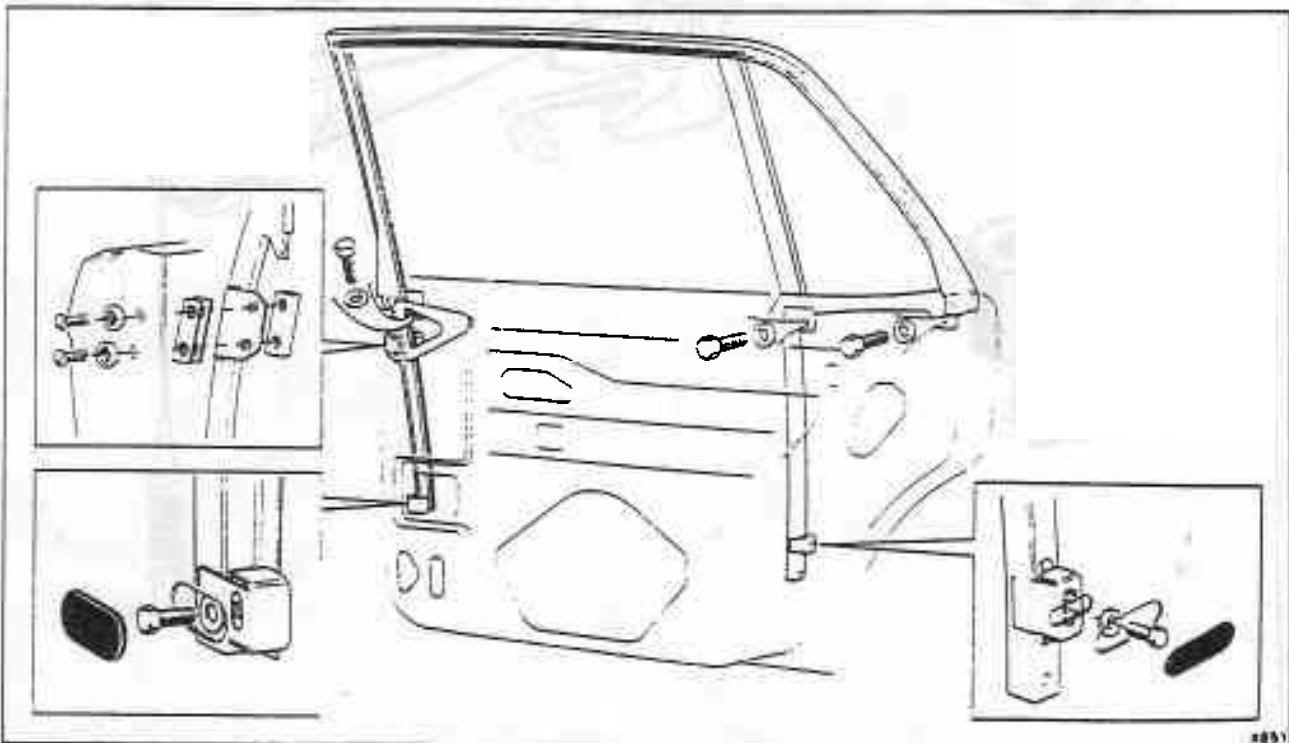

Fig. S4-8 Window frame fixing and adjustment points
7. Remove all the frame securing bolts. Note the positions of all bolts, screws, spacers, etc., for easier assembly (see fig. S4-8).
(see figs. S4-8 and S4-9)
the front of the door. Note that two sizes of shim are available (see fig. S4-8).
If required, modification kits are available to strengthen the window frames. The modification consists of welding stainless steel plates to the frame. This produces a more rigid fixing of the type shown in figure S4-8.